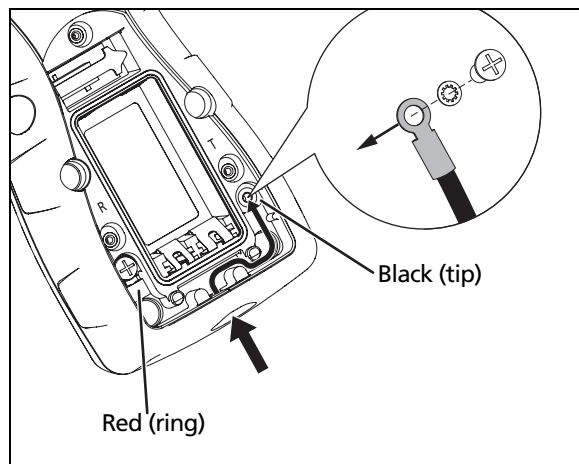

Figure 9. How to Remove and Install the Test Leads
- 3 Loosen the two screws that attach the test leads to the test set (Figure 9), then remove the two screws and washers.
- 7 Install the screw and washer to attach the lug to the test set. Figure 9 shows the correct installation for the lugs.